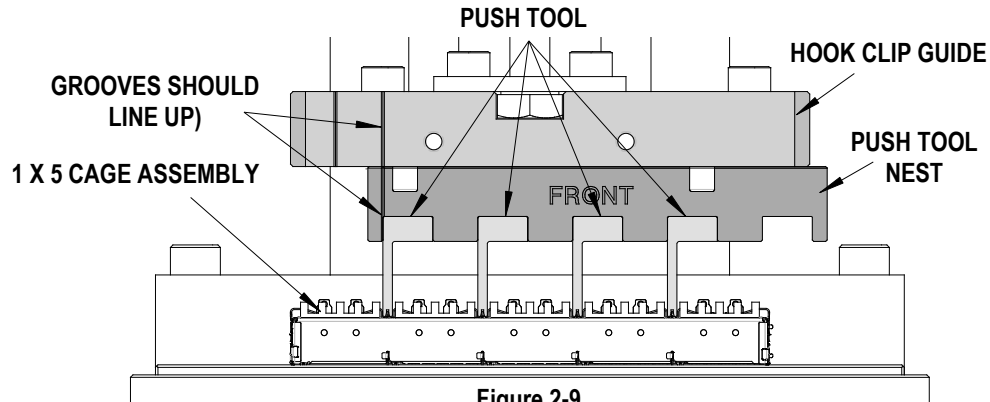

Figure 2-9
4. There is a vertical groove on the Hook Clip Guide and the Push Tool Nest that should be aligned. See Figure 2-9.